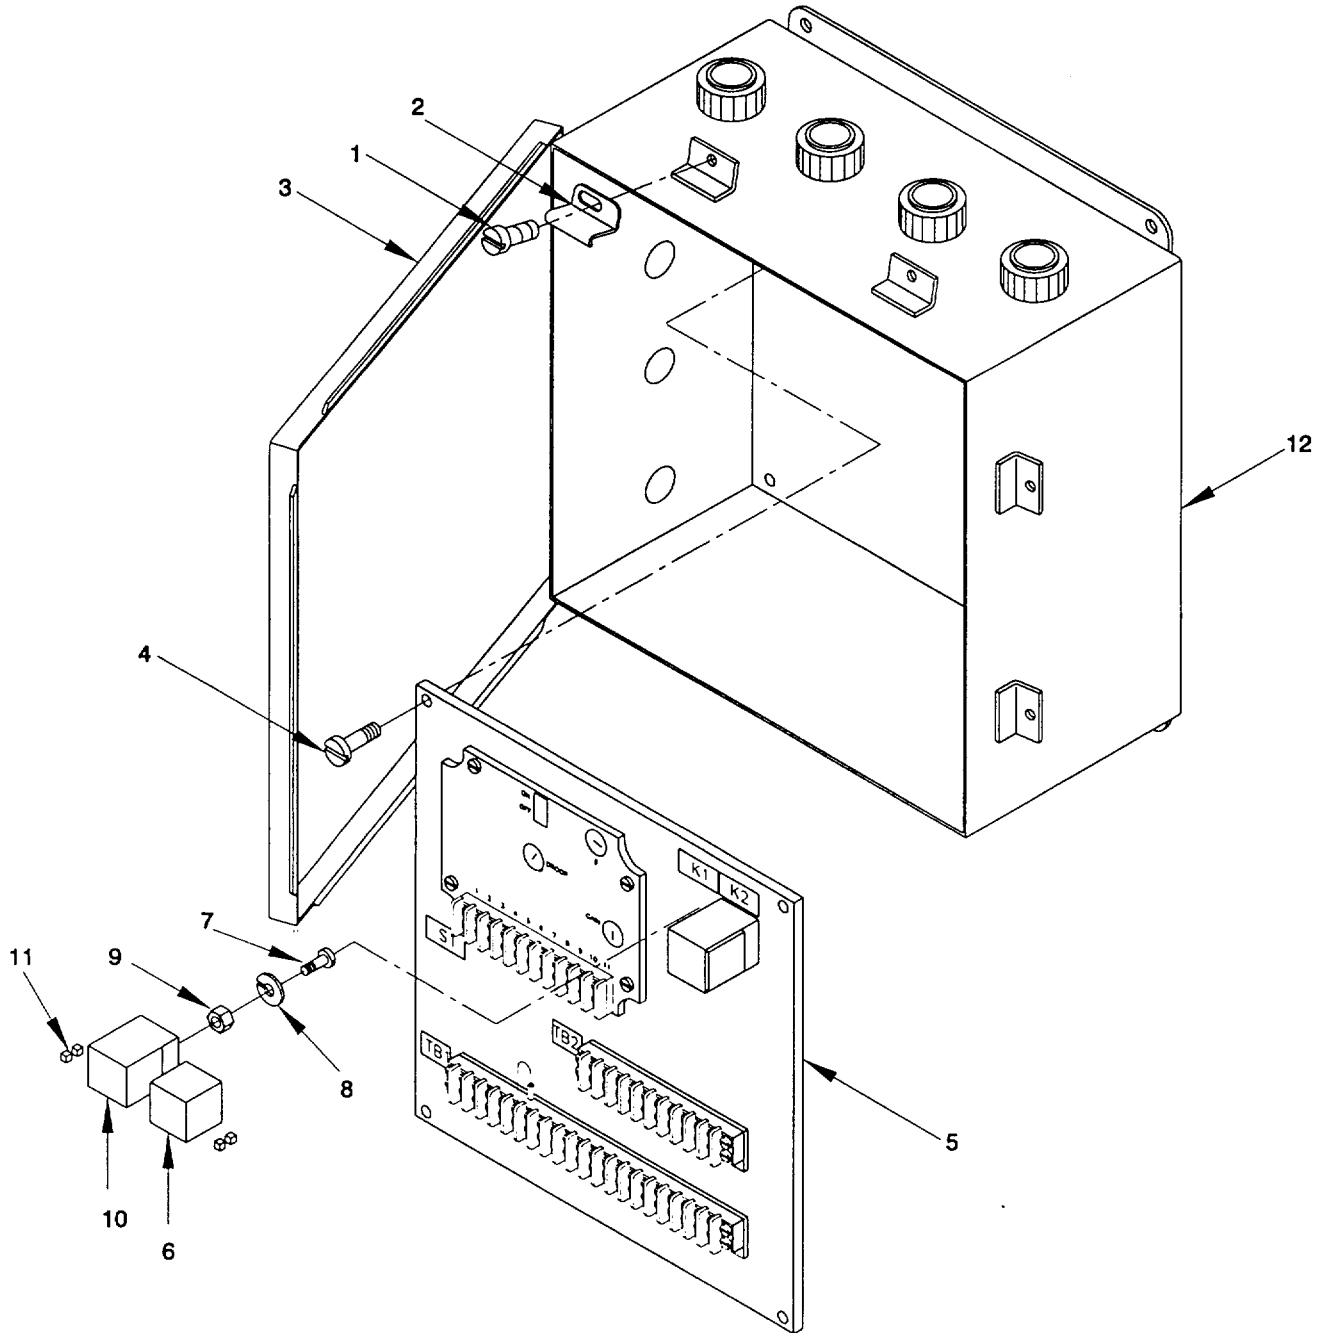

Figure 2-56. Relay, Engine Junction Box "A4", Remove/install
a. *Remove.* (figure 2-56)
- (1) Remove six screws (1) and six clamps (2) securing cover (3) to enclosure (12). Swing cover (3) open.
- (2) Disconnect and tag electrical wiring to relays (6). Refer to Appendix G.
- (3) Remove four screws (4) securing panel (5) to enclosure (12). Lift panel (5) enough to access the rear of the panel (5)
- (4) Remove two relays (6) from two relay sockets (11).
- (5) Remove two pan head screws (7), two lock washers (8) and two insert nuts (9) securing two relay sockets (10) to panel (5). Remove relay sockets (10).
- (6) Remove relay terminals (11).
b. *Install.* (figure 2-56)
- (1) Apply antiseize compound to screws (1, 4 and 7).
- (2) Install relay terminals (11).
- (3) Install two relay sockets (10) on panel (5). Secure relay sockets (10) with two pan head screws (7), two lock washers (8) and two insert nuts (9).
- (4) Install two new relays (6) in relay sockets (10).
- (5) Install panel (5) in enclosure (12). Secure panel (5) with four screws (4).